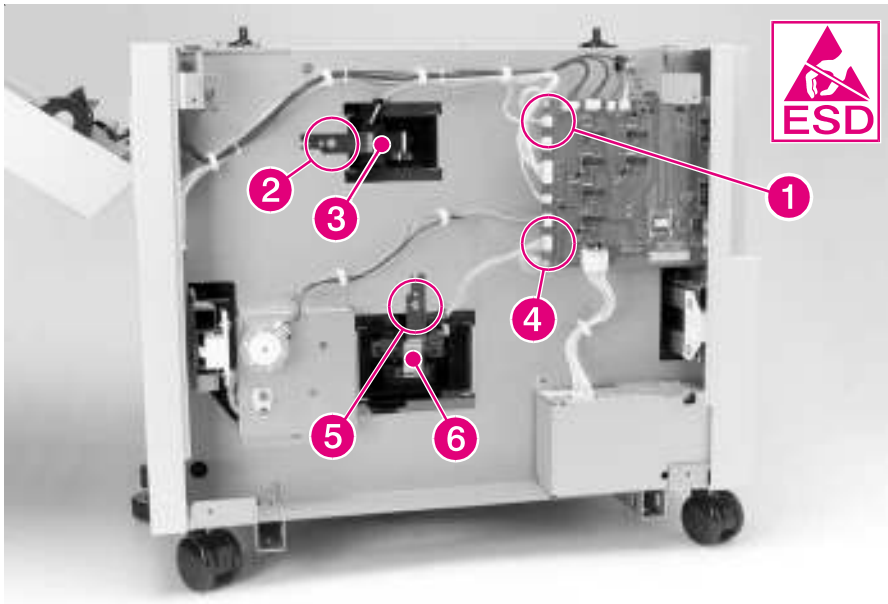

Figure 6-76 2000-sheet Input Tray Paper Size and Paper Quantity Switch (1 of 2)
- 2 Locate the cable that runs from the Paper Quantity Switch Assembly on the 2000-sheet Input Tray to the unit's Controller PCA. Disconnect the cable from the Controller PCA (J205 connector), and then free the cable from the cable clips that secure it to the chassis (Figure 6-76, callout 1).
- 1 When reinstalling the metal retaining spring that holds the switch assembly in place (Figure 6-76, callout 2), seat the retaining spring onto the locating pins that are on the chassis.
- 2 Reconnect the switch assembly's cable to the J205 connector on the Controller PCA (Figure 6-76, callout 1).
- 2 Locate the cable that runs from the Paper Size Switch Assembly on the 2000-sheet Input Tray to the unit's Controller PCA. Disconnect the cable from the Controller PCA (J204 connector) (Figure 6-76, callout 4).
- 1 When reinstalling the metal retaining spring that holds the switch assembly in place (Figure 6-76, callout 5), seat the retaining spring onto the locating pins on the chassis.
- 2 Reconnect the switch assembly's cable to the J204 connector on the Controller PCA (Figure 6-76, callout 4).